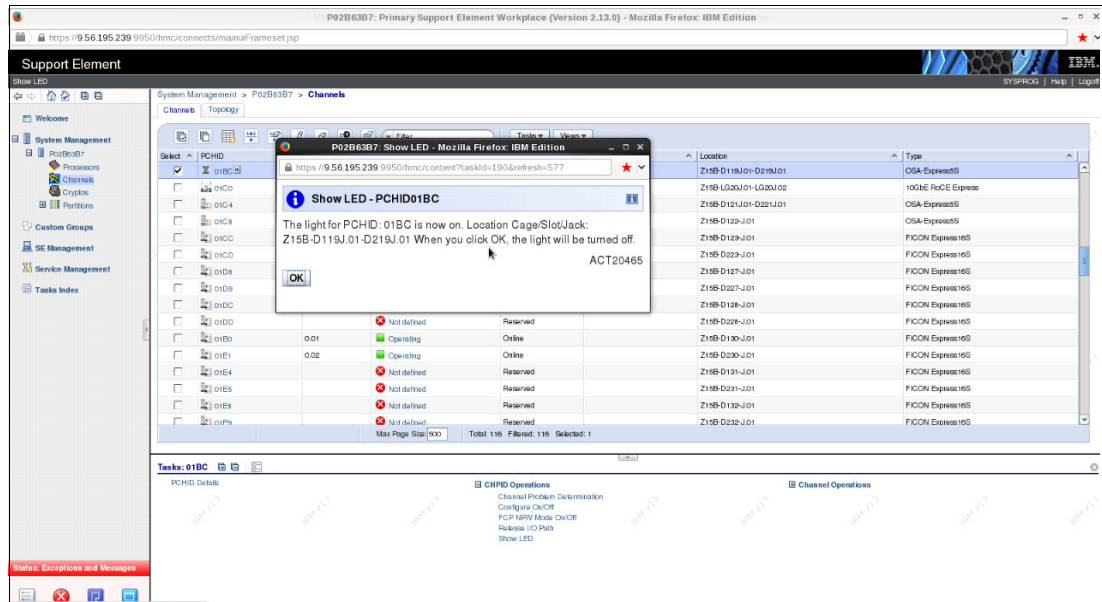

Figure 5-42 Show LED pop-up window
16. The LED window opens, as shown in Figure 5-42. We can now see the PCIe I/O card on the z13 server with the LED turned on. We select **OK** to turn off the LED. This step can be repeated for each PCHID of the I/O configuration.